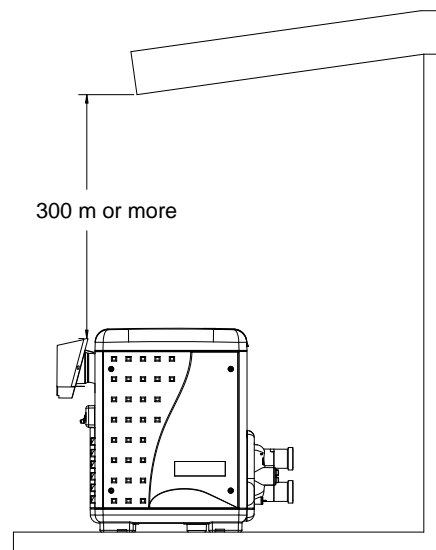

Figure 14.
a) At least 300 mm below eaves, balconies and other projections (Figure 14). * Where eaves have openings into the house or roof space, the clearance required is 1500 mm.